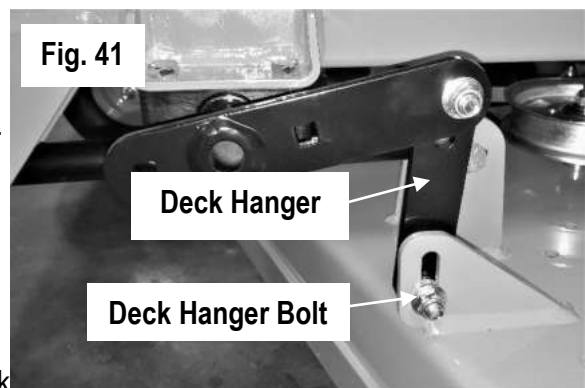

Fig. 41
4. Using a pair of  $\frac{9}{16}$ " wrenches, loosen all deck hanger bolts on the top of the deck. These are the lower bolts in the slots of the deck as shown in Fig. 41. Do not loosen the upper bolts that attach the deck hangers to the actuator lift bars.